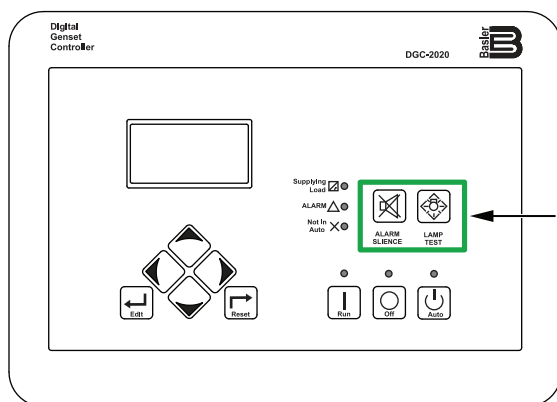

Figure 78. Digital Controller (Alarm Silence And Lamp Test Buttons)
1. Press and hold the **Alarm Silence** button and the **Lamp Test** button (Figure 78) simultaneously for 5 seconds.